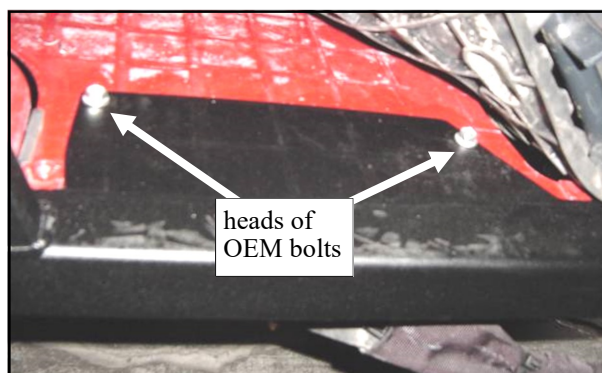

Fig. 3.2 (right side shown)
3.2 Per fig. 3.2, and with assistance, pull back the floor mat and remove the two flanged OEM bolts shown. Set the side frame down on the metal floor of the tractor as shown. Install the two bolts just removed, but do not tighten. Repeat for opposite side frame.